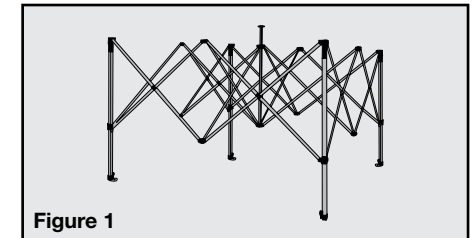

Figure 1
4. Please take care that the gazebo feet are not catching on the ground preventing a smooth opening operation. Continue to expand the gazebo frame until almost fully expanded as indicated in Figure 1.